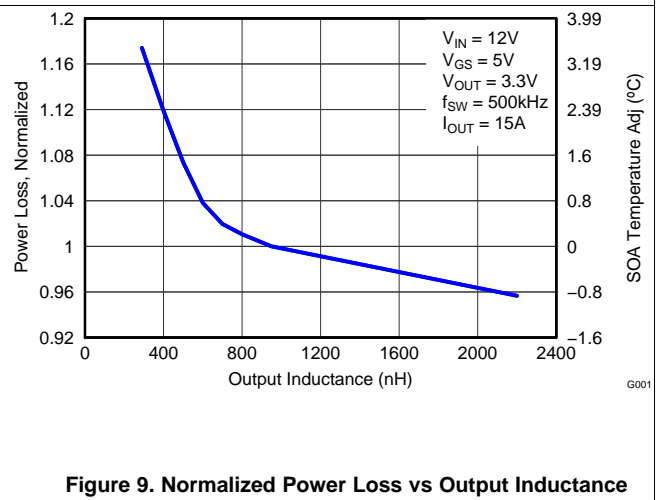

Figure 9. Normalized Power Loss vs Output Inductance
The typical power block system characteristic curves (Figure 1 through Figure 9) are based on measurements made on a PCB design with dimensions of 4 in (W) × 3.5 in (L) × 0.062 in (H) and 6 copper layers of 1-oz copper thickness. See Applications for detailed explanation. $T_A = 125^\circ\text{C}$, unless stated otherwise.
- Normalized power loss for output inductor \approx 1.03 (Figure 9)
- SOA adjustment for output inductor \approx 0.8°C (Figure 9)